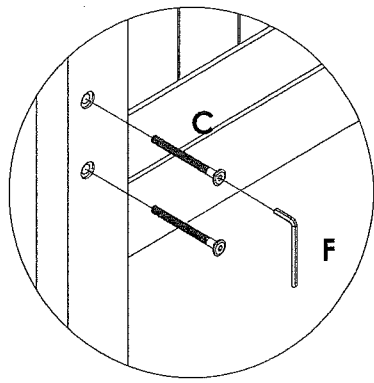

Figure 4
- 2. Attach the **Headboard** and **Footboard** to the **Side Rails** by using **JCBC Bolts (C)**, tighten it up by using an **Allen Key (F)** as shown in **Figure 4**.